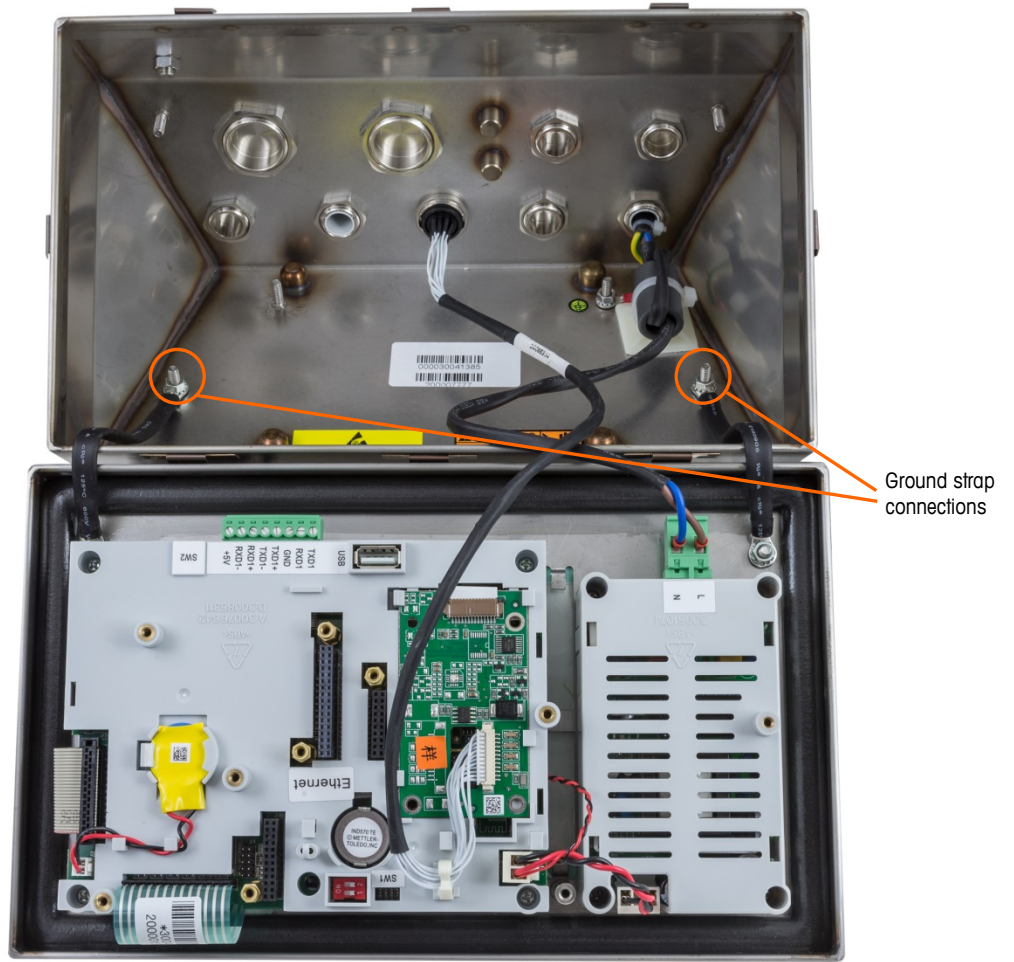

Figure 2-13: Loosening the Ground Straps
- B. Loosen and remove the two nuts securing the two grounding straps (these also operate as hinges for the front cover) to the rear housing. See Figure 2-13.